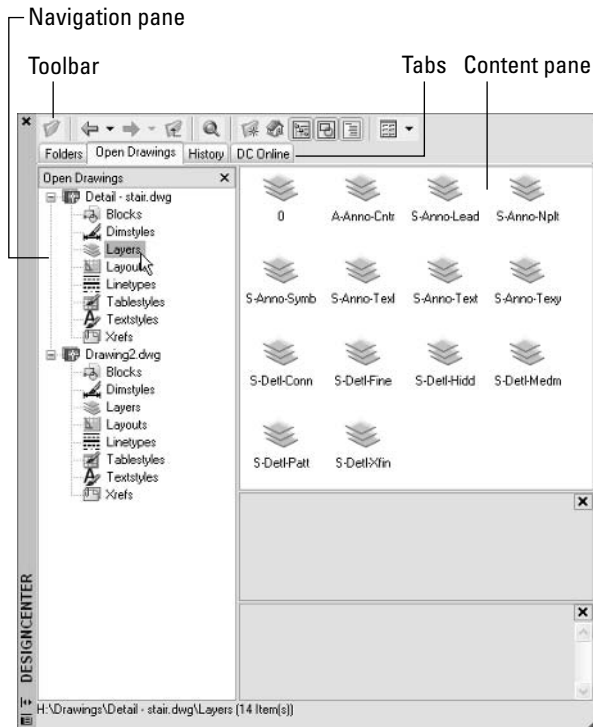

Figure 3-9:
The DesignCenter palette (shown in Figure 3-9) consists of a toolbar at the top, a set of tabs below that, a navigation pane on the left, and a content pane on the right. The navigation pane displays a tree view with drawing files and the symbol tables contained in each drawing. The content pane usually displays the contents of the drawing or symbol table.
The toolbar buttons further refine what you see in the navigation and content panes. A few of these buttons toggle off and on different parts of the panes. If your DesignCenter palette is missing an area that appears in Figure 3-9, click each of the buttons until the missing part reappears.
5. If DesignCenter doesn't display the symbol tables indented underneath the source drawing (the one you opened in Step 2), as shown in Figure 3-9, click the plus sign next to the drawing's name to display them.